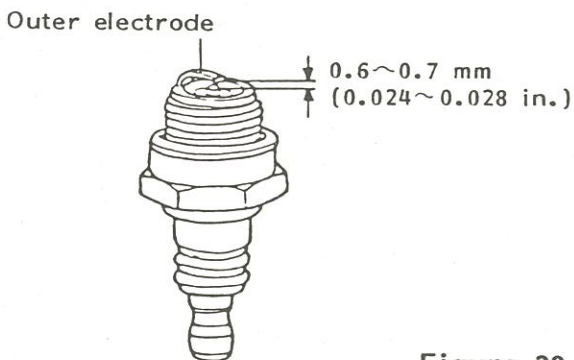

Figure 28
2. Check electrodes and adjust if gap is out of range. (Figure 28)